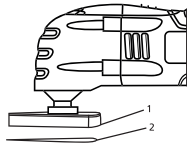

Fig.3
1. Install the hook & loop sanding pad (1) onto the tool (Fig. 3).
2. Firmly press the sandpaper (2) onto the hook & loop pad.
2. Install the sandpaper on the sanding pad as outlined in Fig. 3 on Page 13.